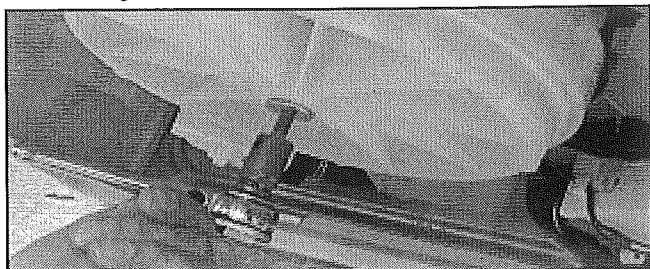

FIGURE 4
8. Using a 1/4" Hex Driver, remove rotor bolt and rotor. See *Figure 4*.